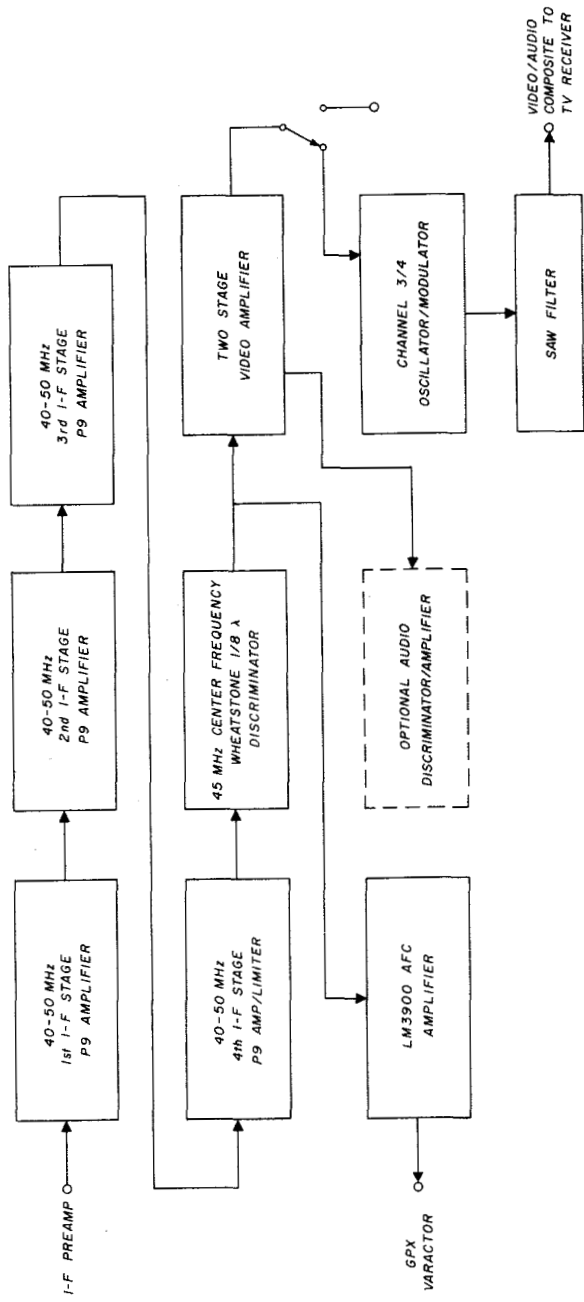

Figure 15-1.
The choice of i-f is left to the builder. I have built 10-MHz-wide video i-fs centered on both 45 MHz and 113 Mhz with no interfering signal feed-through problems of any type. One must remember, though, that at my location the nearest fm broadcast station is over 20 miles away. For a Gunnplexer-system builder living in a metropolitan area it would probably be a wise choice to use 45 MHz to avoid the potential problems from fm broadcast stations. *Fig. 15-1* is a block diagram of the Gunnplexer Cookbook 10-GHz video system. Although the 45-MHz i-f is shown, merely extrapolate the numbers to any 10-MHz-wide i-f of your choice, as the P9 i-f amplifier stages and the broadband Wheatstone bridge discriminator will undoubtedly work nearly as well at any frequency up through 230 MHz.
- b. Composite video/audio on the 10-GHz signal using an ordinary TV receiver as shown in *Figure 15-1*. A 4.5-MHz fm subcarrier generator is shown.
2. Build a 4.5-MHz i-f amplifier, discriminator, and audio amplifier driven by the two-stage video amplifier shown in *Figure 15-1*. Bob Cooper has described a simple and easy-to-build unit on page 40, July, 1978 issue of the Community Antenna Television Association (CATA) Journal. You can probably borrow a copy from your local cable TV operator.
Let's run through the 10-GHz video system illustrated in *Figure 15-1*, although it's largely self explanatory. This circuit has been built and tested at two different i-f frequencies, 113 and 45 MHz. There was no measurable or noticeable difference in performance between the two i-fs. It took slightly longer to align the 45-MHz i-f amplifiers than the 113-MHz units, but that was the only difference between the two.